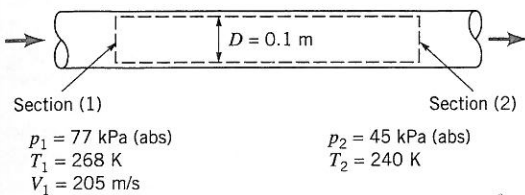

Figure P5.10
5.10 Air flows steadily between two cross sections in a long, straight section of 0.1-m-inside-diameter pipe. The static temperature and pressure at each section are indicated in Fig. P5.10. If the average air velocity at section (1) is 205 m/s, determine the average air velocity at section (2).